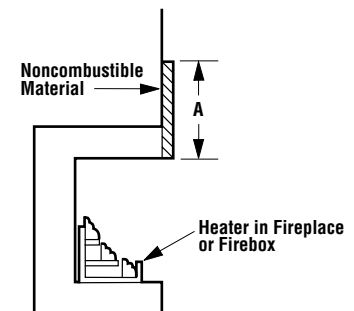

Figure 2
Step 3. Noncombustible materials (minimum requirements): To install the room heater without wood mantels, shelves or other combustible projections directly above the opening of the fireplace (firebox) refer to Figure 2 and Table 2. Note that at least 8" of noncombustible material must be installed above the heaters described in this manual.